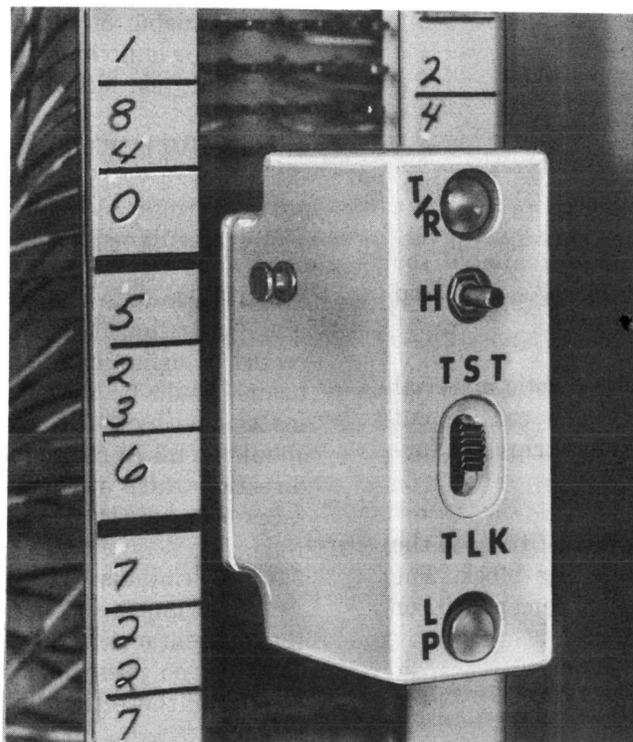

Fig. 20—C-Key Equipment Test Block
7.02 The C-key test block (Fig. 20) consists of a molded fire retardant plastic housing enclosing the test circuitry and components. Contact is made to the 66-type connective element with or without conductors in place by six spring contacts. The test block must be positioned on either type connecting block to make electrical connection to the following contacts (from the top down); tip, ring, A, A1, lamp ground, and lamp for one key line. By appropriate positioning of the switches, proper operation of the key telephone unit line circuits and/or the associated cabling and cross-connect wiring can be verified. The test block also provides access to the tip and ring for monitoring or dialing out with a handset. See Table B for lamp and switch operations of the C-key equipment test block.♦